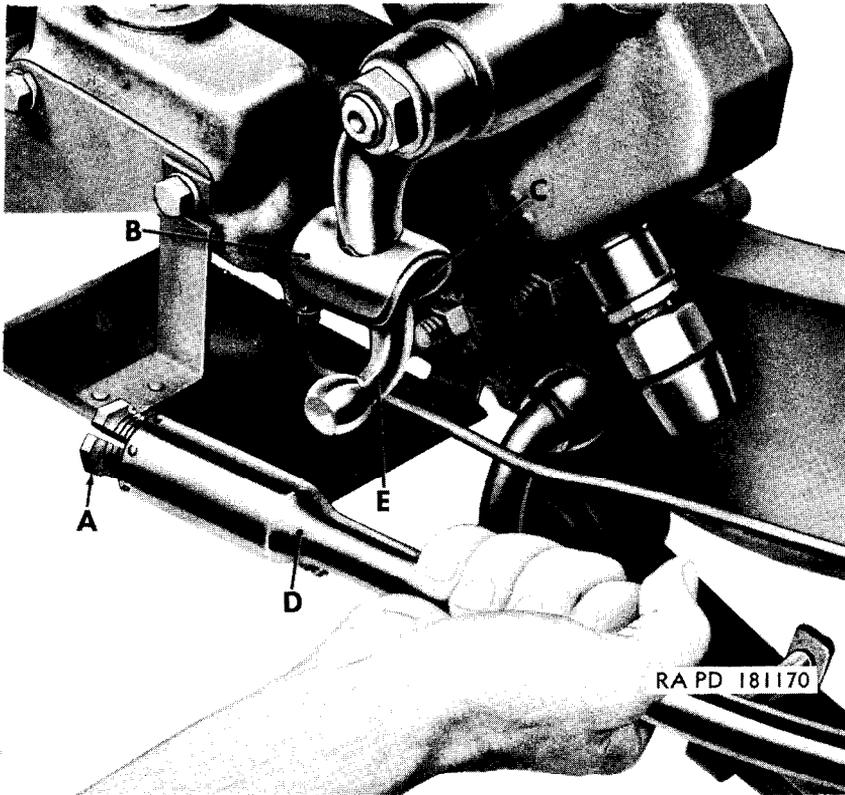

Figure 34. Disconnecting steering drag link assembly.
a. *Disconnect Electrical Cables.* Disconnect two electrical cables (circuit number 25) (A) leading to bottom of steering gear. Disconnect electrical cables (circuit number 75) (B) from master cylinder assembly.
b. *Remove Clips.* Remove the eight wiring harness clips (C). Remove open clip (D). Remove two wiring harness clips (E). Remove open clip (F). Remove two bolts, plain nuts, and lockwashers securing open clips (G) to top of rear crossmember. Remove wiring harness from frame.
a. *Disconnect Steering Drag Link Assembly* (fig. 34). Remove cotter pin from ball seat adjusting plug. Back off gear end ball seat adjusting plug (A) until it is retained by a few threads. Slide dust cover shield (B) and dust cover (C) up pitman arm so that hole in steering drag link is exposed. Pull steering drag link assembly (D) from pitman arm (E).